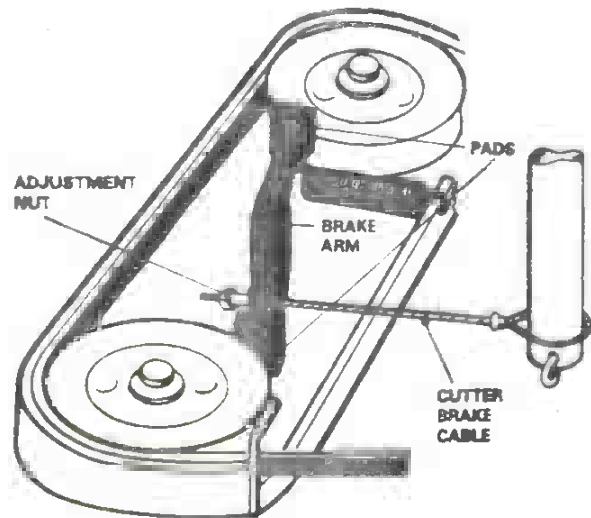

Figure 9. Cutter Deck Brake Adjustment
- 3) Identify and locate Brake Arm with Brake Pad at the end. (See Figure 9. Cutter Deck Brake Adjustment).